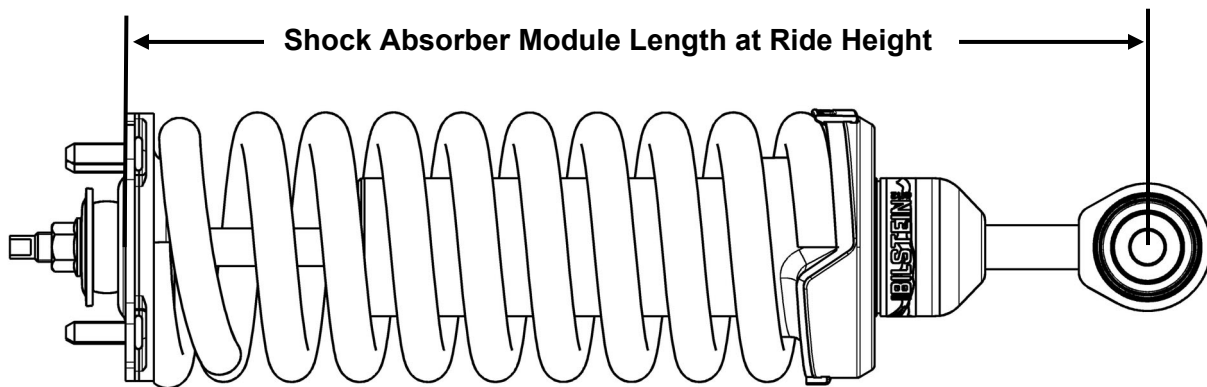

Figure 2
*** **DO NOT USE** this circlip location for stock weight vehicles. However, if substantial additional weight is added to your vehicle (e.g. heavy bumper and winch), and this results in a loss of ride height, this circlip location may be utilized to restore the vehicle to its intended ride height. Subsequently, it is essential that you verify the shock absorber module length at ride height does not exceed the values listed in Figure 2.
For **Tundra** models, verify the shock absorber module length specified in Figure 2 below is **less than or equal to 20 9/16" (522mm)**. If the resultant shock absorber module length is greater than 20 9/16" (522mm), a lower circlip location should be used.
For **Sequoia** models, verify the shock absorber module length specified in Figure 2 below is **less than or equal to 20 1/16" (510mm)**. If the resultant shock absorber module length is greater than 20 1/16" (510mm), a lower circlip location should be used.